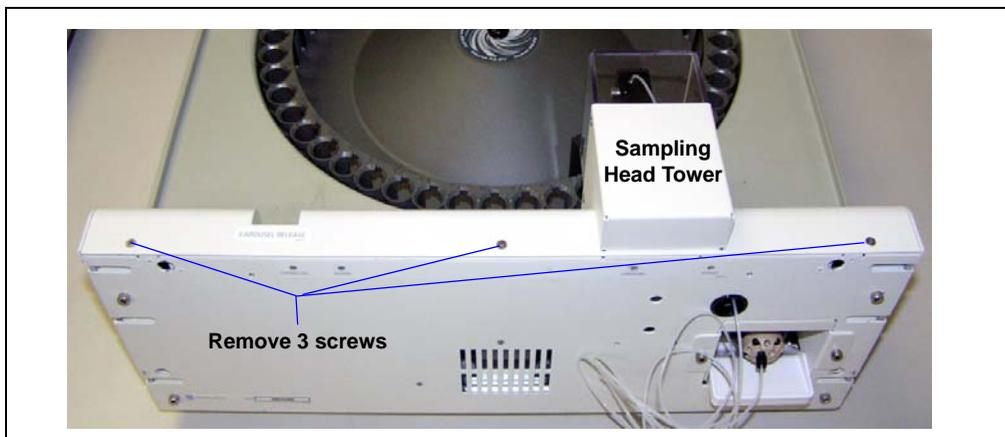

Figure 5-7. Removing the Sampling Head Tower Cover
5. Use a #1 Phillips screwdriver to remove the three flathead screws from the sampling head tower cover (see Figure 5-7). Lift up the cover to remove it.